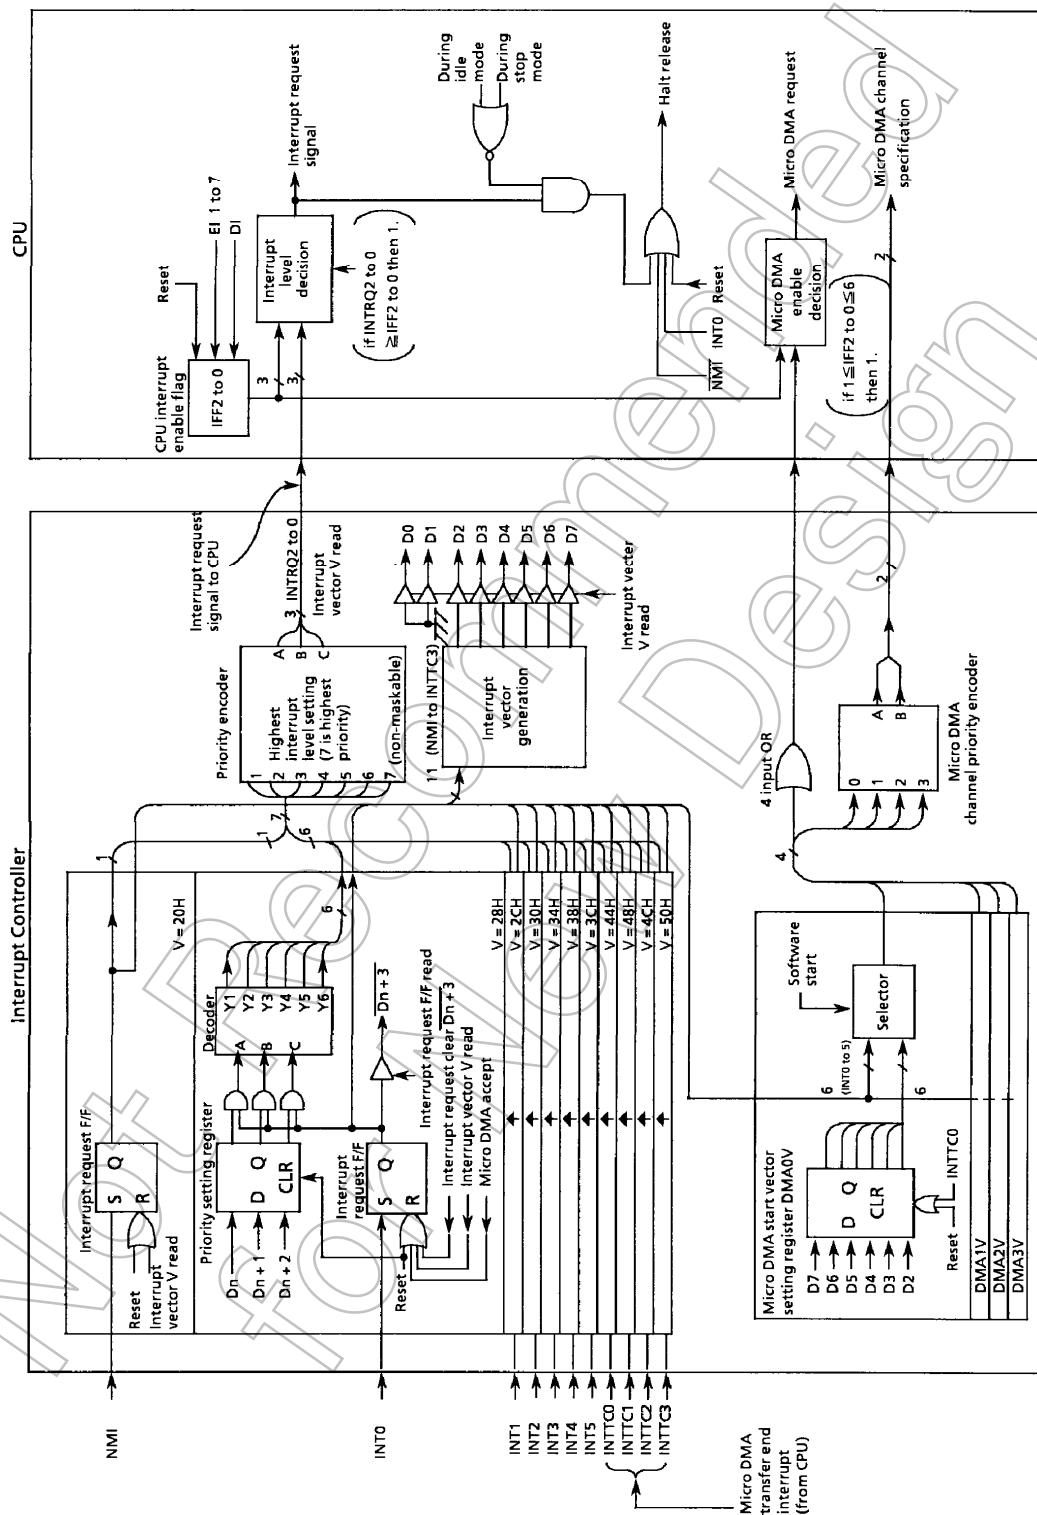

Figure 3.3 (4) Interrupt Controller Block Diagram
(2) Interrupt priority setting register
Figure 3.3(5) shows the interrupt priority setting registers. The interrupt request level setting bits <IxxM2 to 0> are provided for each 10 interrupt channels (INT0 to 5, INTTC0 to 3). Interrupt levels to be set are from 1 to 6. Writing 0 or 7 as the interrupt priority disables the corresponding interrupt request. The priority of the non-maskable interrupt ($\overline{\text{NMI}}$ pin) is fixed to 7. If interrupt requests with the same interrupt level are generated simultaneously, interrupts are accepted in accordance with the default priority.